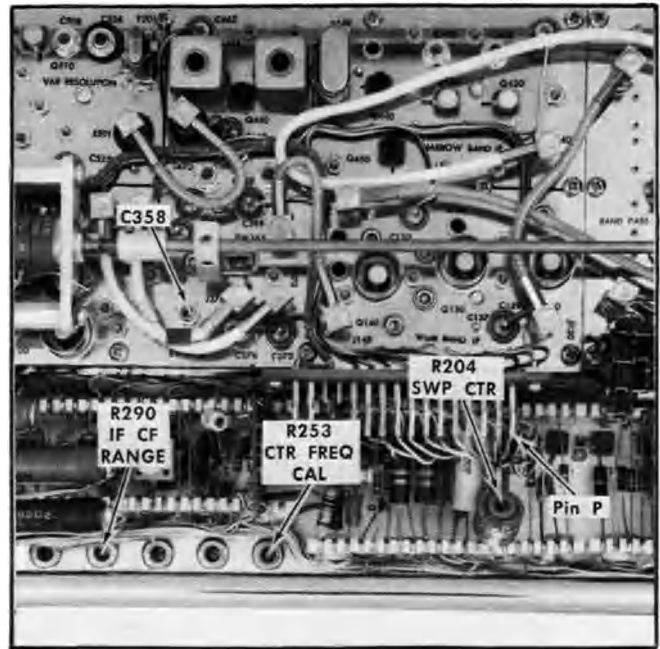

Fig. 5-2. Location of sweeper and discriminator adjustments.
j. Connect the probe of a DC coupled test oscilloscope to chassis ground on the Type 1L40. Establish 0 V reference level on the test oscilloscope, then connect the probe to pin P of the pin connector on the honeycomb assembly, see Fig. 5-2.
k. ADJUST—The IF CF Range R290 (see Fig. 5-2) for  $-0.75 \pm 0.1$  volt of trace deflection on the test oscilloscope.
o. ADJUST—the Center Freq Cal R253 (Fig. 5-2) for minimum IF signal shift as the DISPERSION selector is switched between the 10 MHz and .2 MHz positions. The DISPERSION RANGE switch must be in the MHz/CM position for this adjustment.
q. ADJUST—the Sweep Center R204 (Fig. 5-2) to position the 200 MHz signal to the graticule center line.
d. Adjust the DISP CAL R208, for a 1 marker/centimeter over the center 8 graticule divisions, then adjust C358 (Fig. 5-2) for optimum display linearity.